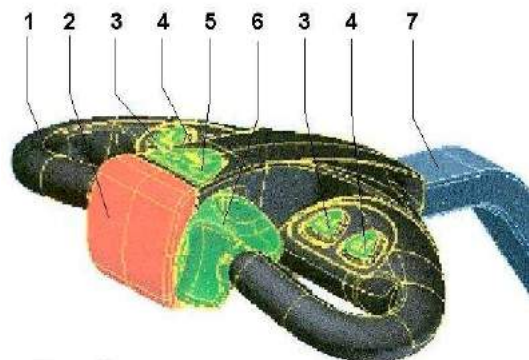

Fig. 2
- check the jam safety on the steering handle by pressing the safety switch (2, fig. 2), the Multi-Mover L should not start in that case.
#### Steering handle (Tiller head) (fig. 2)